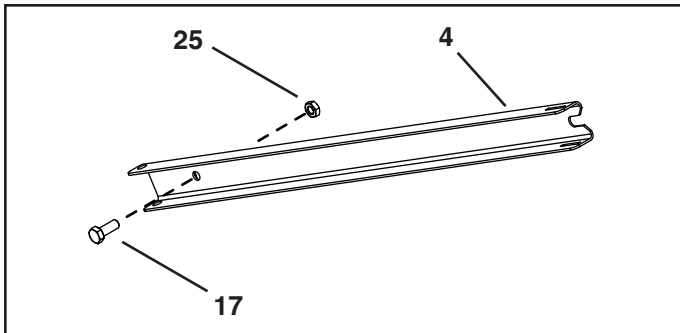

FIGURE 1
- (1) Hammer
STEP 1: (SEE FIGURE 1)
- Install a 5/16-18 x 2-3/4" hex bolt (17) and a 5/16" jam nut (25) in each bag arm channel.